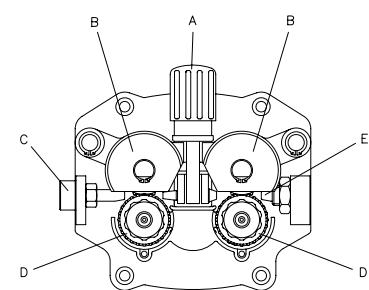

FIG. 5
⚠ Tighten nut to appropriate tightness. Excessive pressure strains the wire feeding motor. Too little pressure does not allow the immediate stop of the wire spool at the end of the welding. Loosen and lower the plastic knob (A) (Fig.5). Open the pressure arm (B) of the feeder. Extract the wire from the torch liner (E).
- When the wire is disconnected, grasp it with pliers so that it cannot exit from the spool. If necessary, straighten it before inserting it in the wire input guide (C). Insert the wire on the lower roll (D) and in the torch liner (E).
- Open the side panel. Loosen and lower the plastic knob (A) and release the pressure arm (B) (Fig. 5). Cut the wire (in the case it is installed) grasp it with pliers so that it cannot exit from the spool and fix it on the suitable hole in the reel. Remove the nozzle and contact tip. Remove with pliers the wire from the hose and torch assembly.